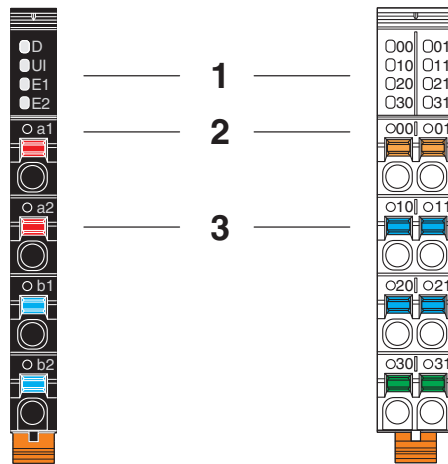

Figure 5-26 Marking of terminal points and LEDs on the connectors
- Indication elements**           Diagnostic and status indicators are marked with the function, e.g., D, E, UI, 00, 01, ... (1 in Figure 5-26).
- Terminal points**                 The terminal points are consecutively numbered, e.g., a1, b1, 00, 01, ... (2 in Figure 5-26).
The associated colored spring lever indicates the function (signal, potential) (3 in Figure 5-26).